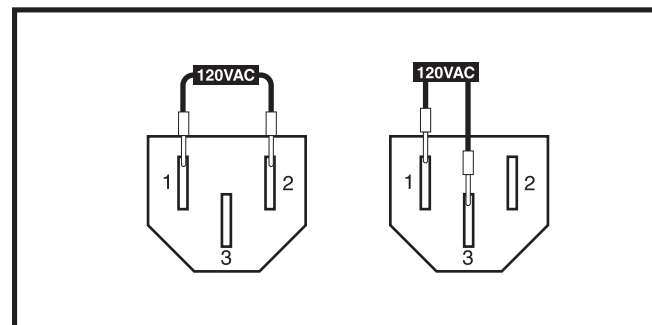

Figure 29. Charger Power Cord 3-pin Connector
21. Measure voltage across pin 1 and pin 2 and across pin 1 and pin 3 on the power cord's 3-pin connector. **See figure 29.**